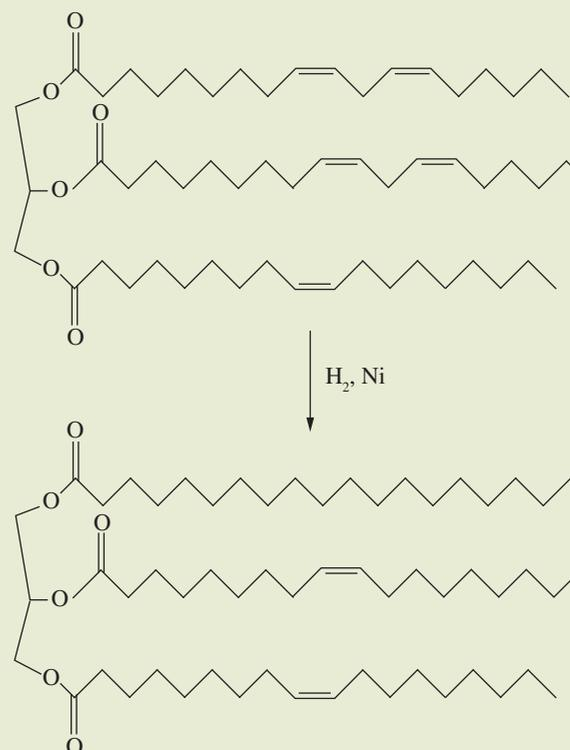

FIGURE 11.3.16 Hydrogenation of some of the carbon-carbon double bonds in a vegetable oil can convert it from a liquid into a 'spreadable' semisolid.
Traditionally, one of the steps in making margarine from a vegetable oil usually involved reacting vegetable oils with hydrogen gas, using a metal catalyst such as nickel. In this step, some carbon-carbon double bonds react with the hydrogen in an addition reaction, and are converted into single bonds, as shown in Figure 11.3.16.
The vegetable oil in Figure 11.3.16 was originally formed in an esterification reaction.
- 4 How many molecules of hydrogen gas have reacted with one molecule of the original vegetable oil in the reaction shown in Figure 11.3.16?